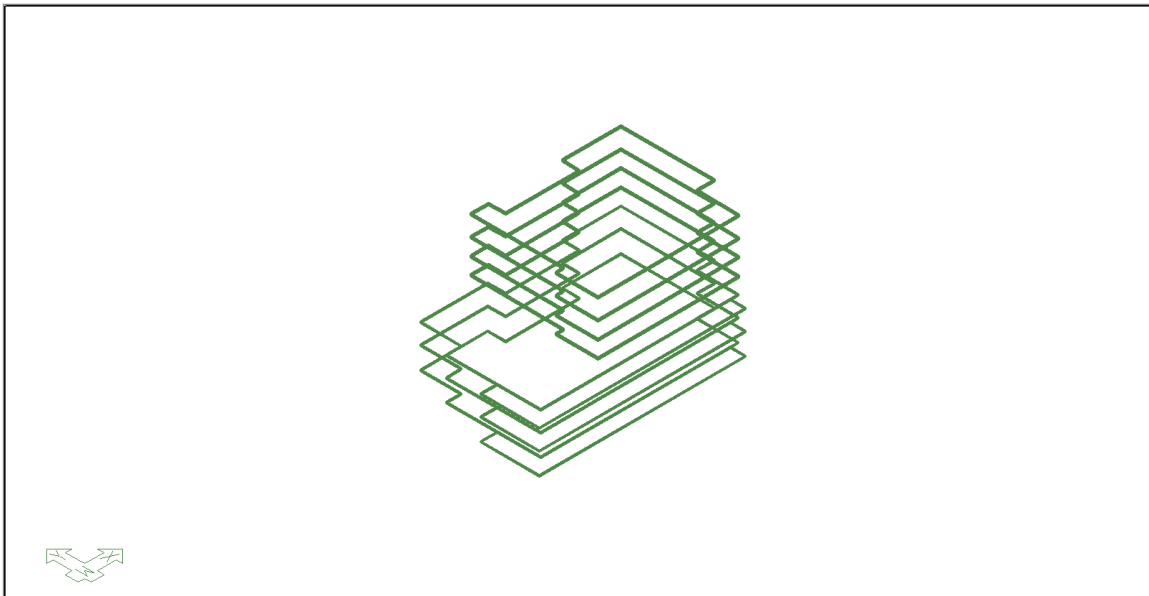

FIGURE 8-6
- Click on the **Top-Front-Right View**  icon in the *Bottom Quick Access* toolbar. This will bring you to the view of the model shown in **FIGURE 8-6**.